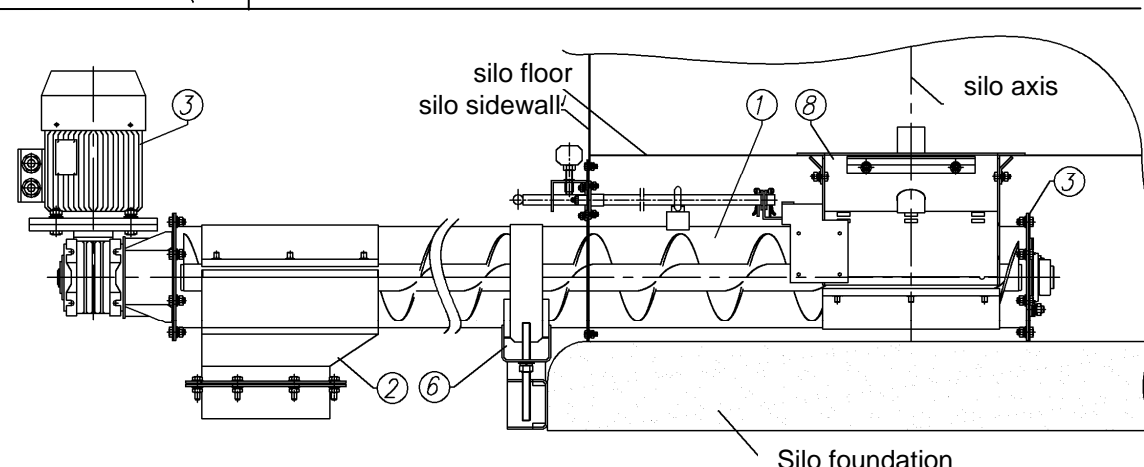

Fig.31 PS160-version with PSU160-WL-CENT
- d) The PS160 screw conveyors can be used as underfloor unloading devices in BIN type silos (Fig.31 and 33) , to achieve that the system needs to be broadened by the central inlet 8 - PSU160-WL-CENT (Fig. 31) or the central inlet 7 – PSU220-WL-CENT (Fig. 33). If the underfloor conveyor PS160 is supposed to be working with the inside screw conveyor PSW100 or PSW200 (Chapter IV) then the required inlet is PSU160-WL-CENT. In case of using the inside conveyor PSW220-BIN200, PSW500, PSW1000 or PSW1500 (Chapter IV) with the PS160 underfloor conveyor, it requires the central inlet PSU220-WL-CENT.